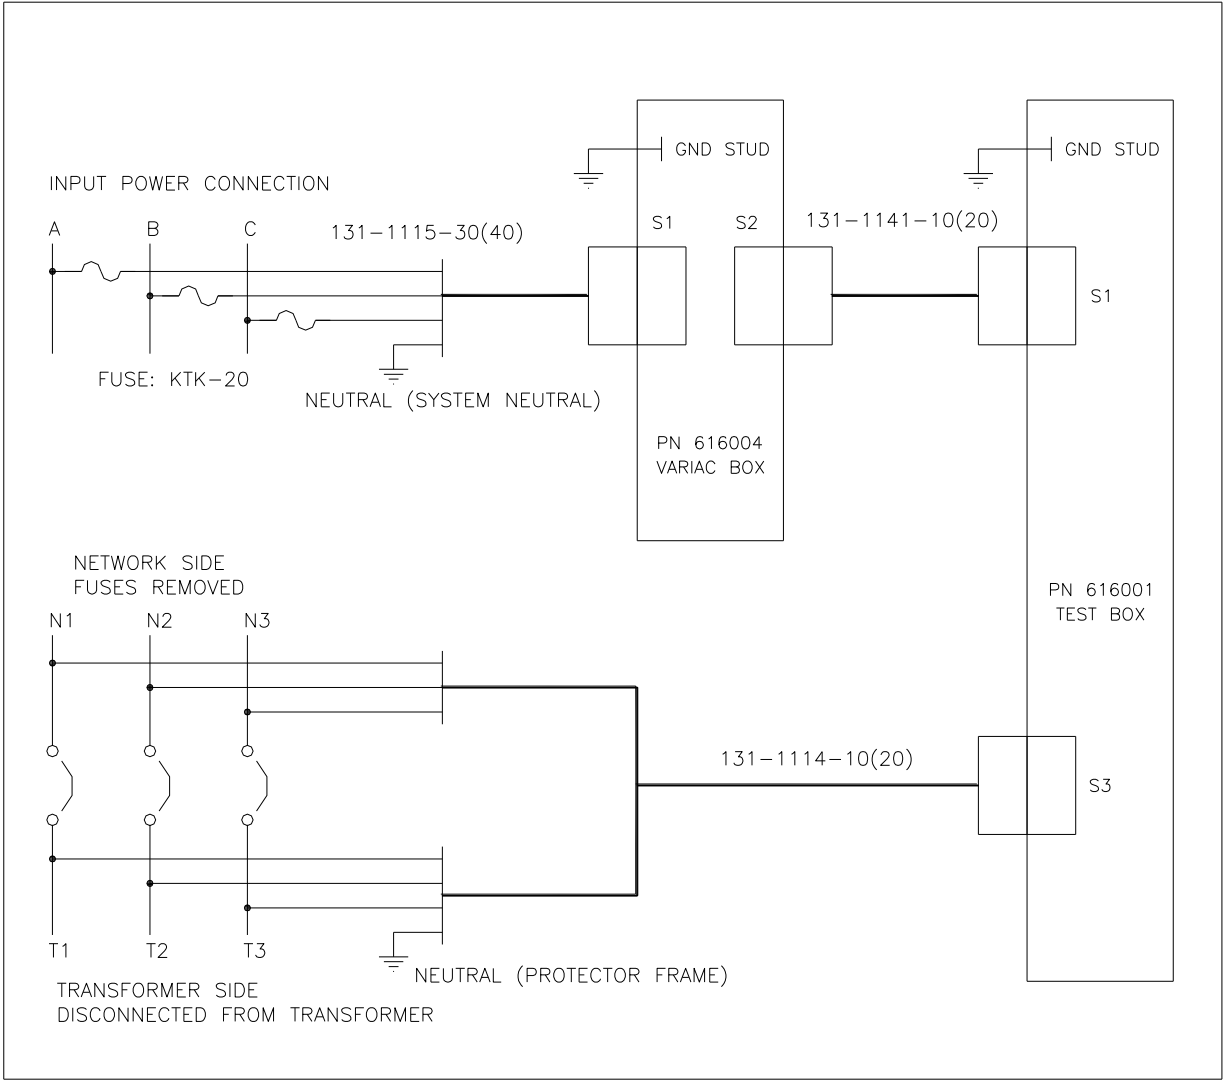

Figure 2: Variac and Test Box Connections
- H. Connect the Test Box and Variac Box to the protector and system power as shown in Figure 2